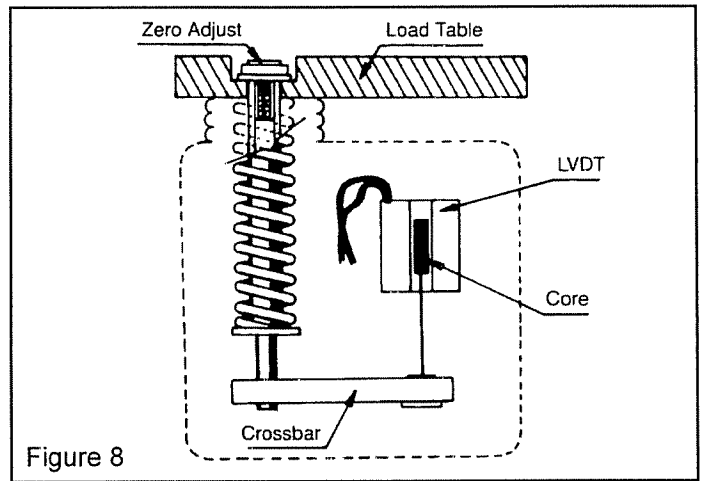

Figure 8
5. If the output voltage is not zero, remove the dust cap located on the Load Table to gain access to the zero adjustment screw. (See Figure 8.)
6. Using a 7/64 inch hex key, turn the zero adjusting screw several turns counterclockwise (CCW). Then, slowly turn the adjusting screw clockwise (CW) until a zero reading is obtained on the voltmeter. If the zero position is passed, turn the adjusting screw counterclockwise (CCW) pass the zero point. Then turn the adjusting screw back in a clockwise (CW) direction until the meter reads zero volt.